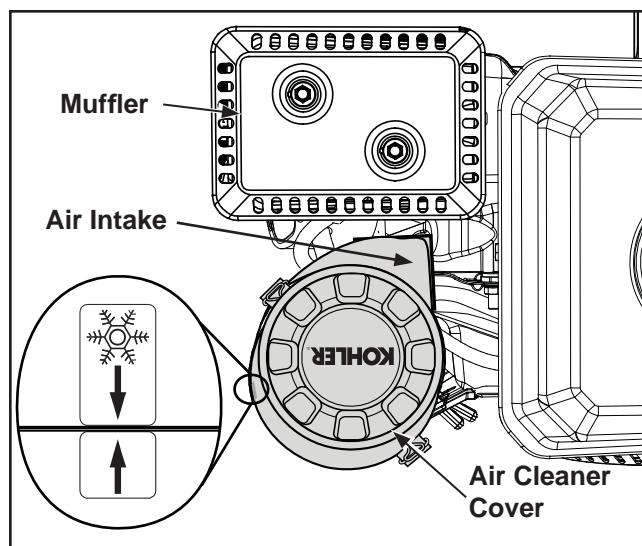

Figure 4-4. Cold Weather Operation Position of Air Cleaner Cover.
- b. For Cold Weather Operation conditions, see Figure 4-4.